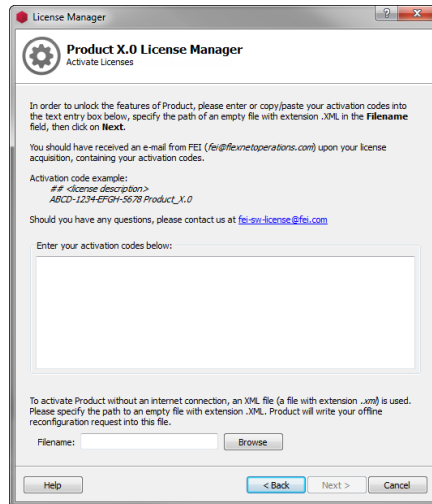

Figure 1.12: License Manager - Offline Activation Wizard
- Then, click **Next** (see Figure 1.12).
- The license manager wizard is opened and displays the page *Activate Licenses* (see Figure 1.12). Copy and paste your activation codes into the provided text field and specify a path to an XML file that will contain your offline activation request.